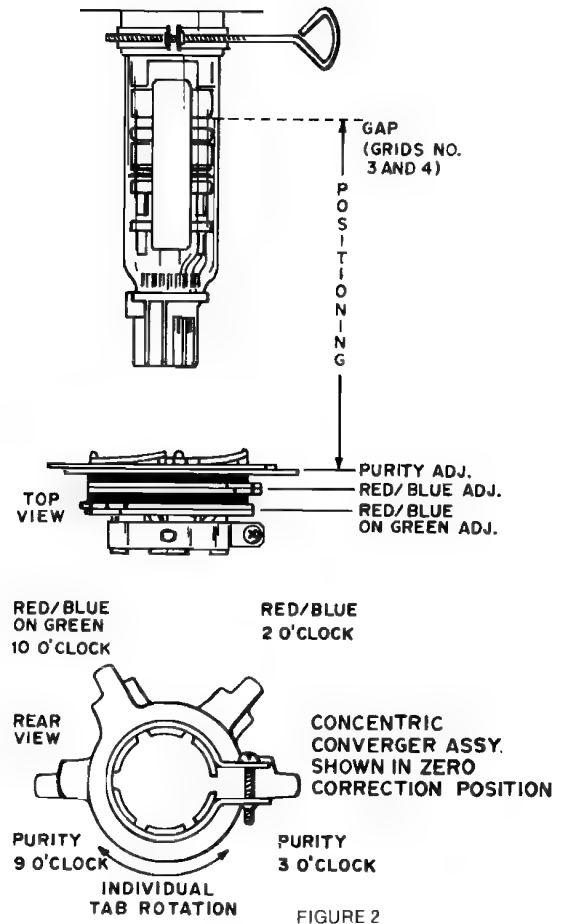

FIGURE 2
- 2.2 Set the converger assembly on the CRT neck with the center line (of the Purity Adjustment Magnet) over the gap between grids no. 3 & 4. (See Figures 2 & 6)
- 5.1 Refer to Fig. 2 and do the following in subdued light.